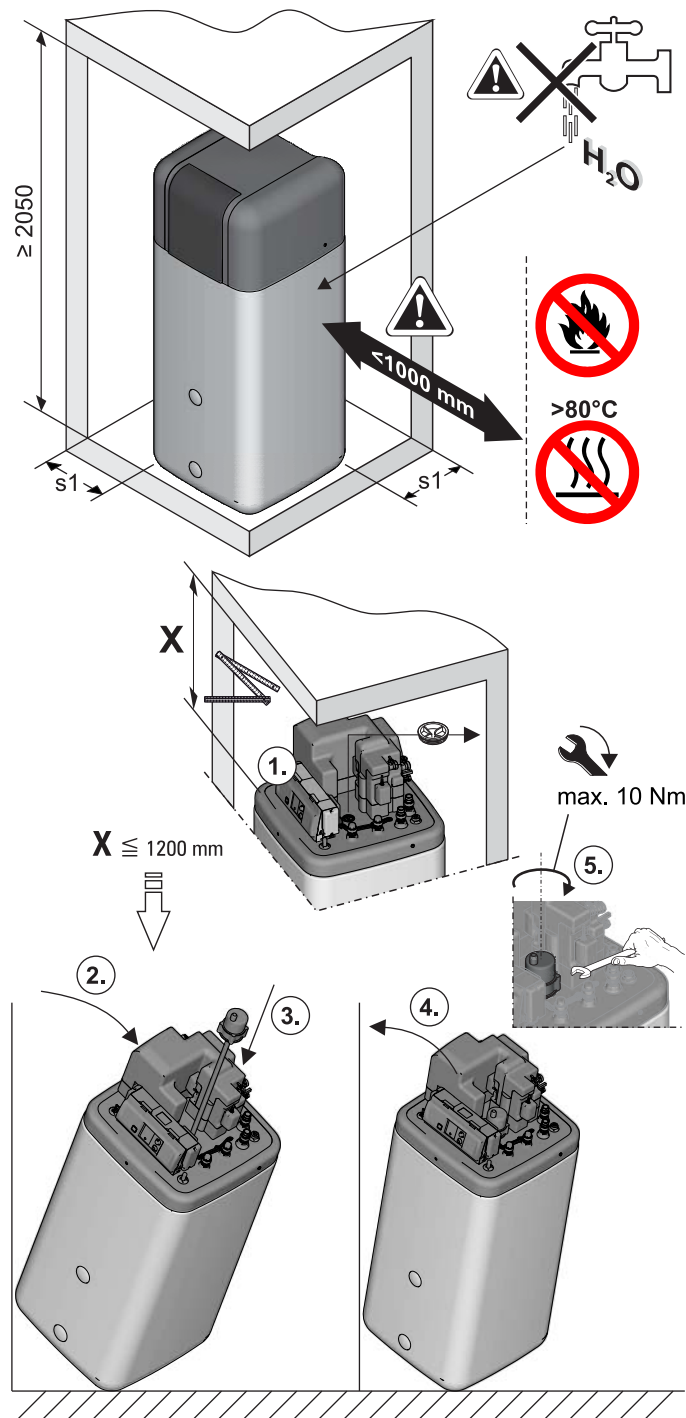

Fig. 3-5 Installation (shown using a Daikin Altherma EHS(X/H)...P50A with integration of the optional back-up heater)
- Recommended clearances (fig. 3-5):
- If necessary, install the optional backup heater (EKBUxx) into the Daikin Altherma EHS(X/H) (fig. 3-5).